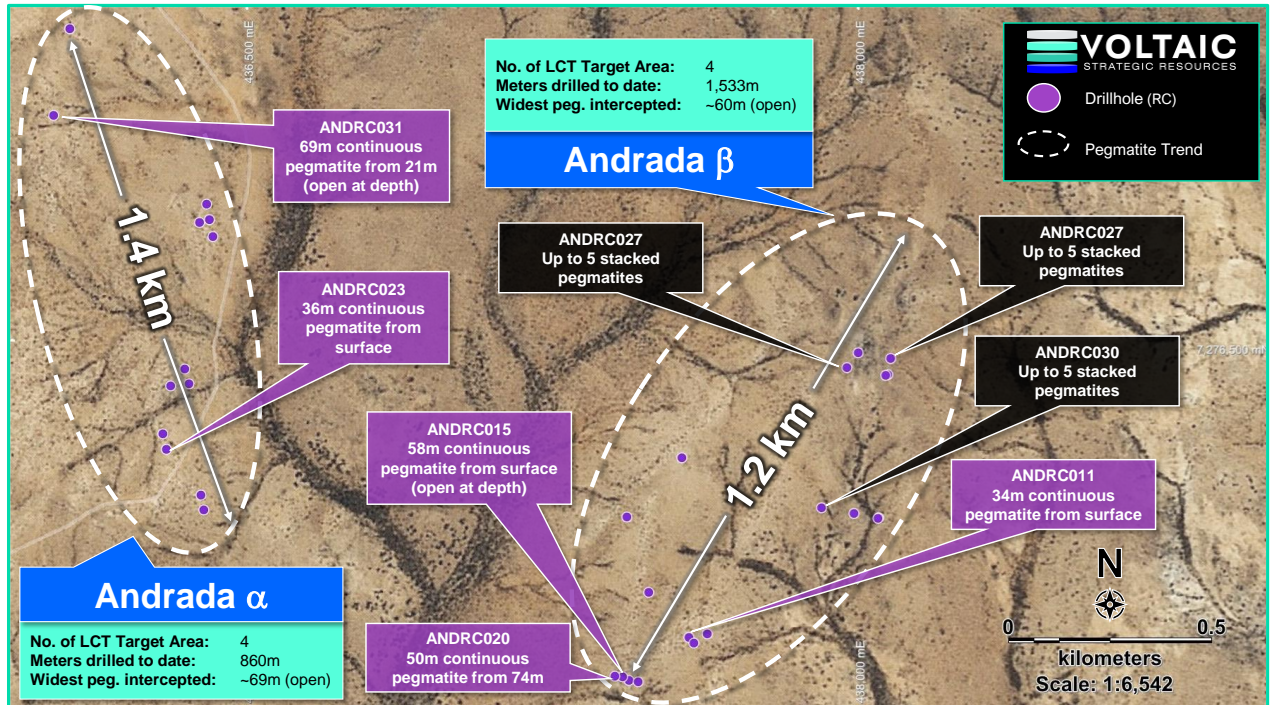

Figure 1. Drilling map showing holes completed at Andrada prospect with identified pegmatite trends. See also Fig. 8
- Both trends display significant width / continuity and zones with multiple stacked pegmatites at depth → **Highly encouraging indicators for regional scale potential** (see Fig. 1, 4 & 8).